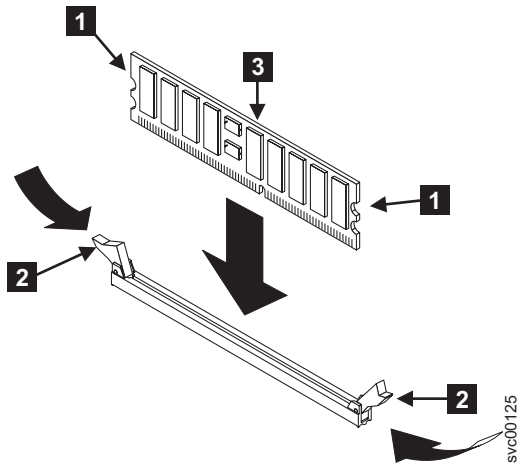

Figure 96. Replacing a memory module
1. With the clips **2** open, lower the memory module **3** into the connector, as shown in Figure 96 on page 107. Insert the DIMM fully to close the clips.